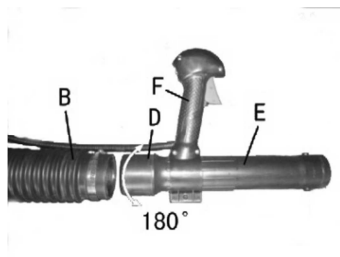
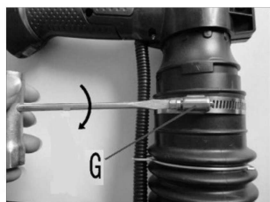

Fig3
Fig.4
2. Put the hose clamp (G) on the flex tube and the operating tube together.
3. Turn the rotary ring mark (D) so it aligns with the throttle handle (F). Insert the operating tube (E) into the flex tube (B) (Fig.3) and then tighten securely with a hose clamp (G) (Fig.4).